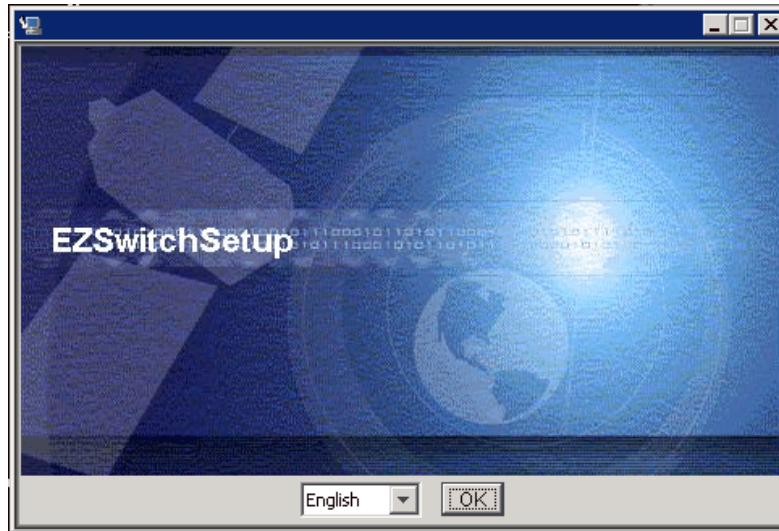

Figure 6-5 EZSwitchSetup - startup panel
1. Using either a Windows system that is located physically close to the switch or a mobile computer, insert the CD, which starts the EZSwitchSetup program automatically, as shown in Figure 6-5. Click **OK** to start the installation.